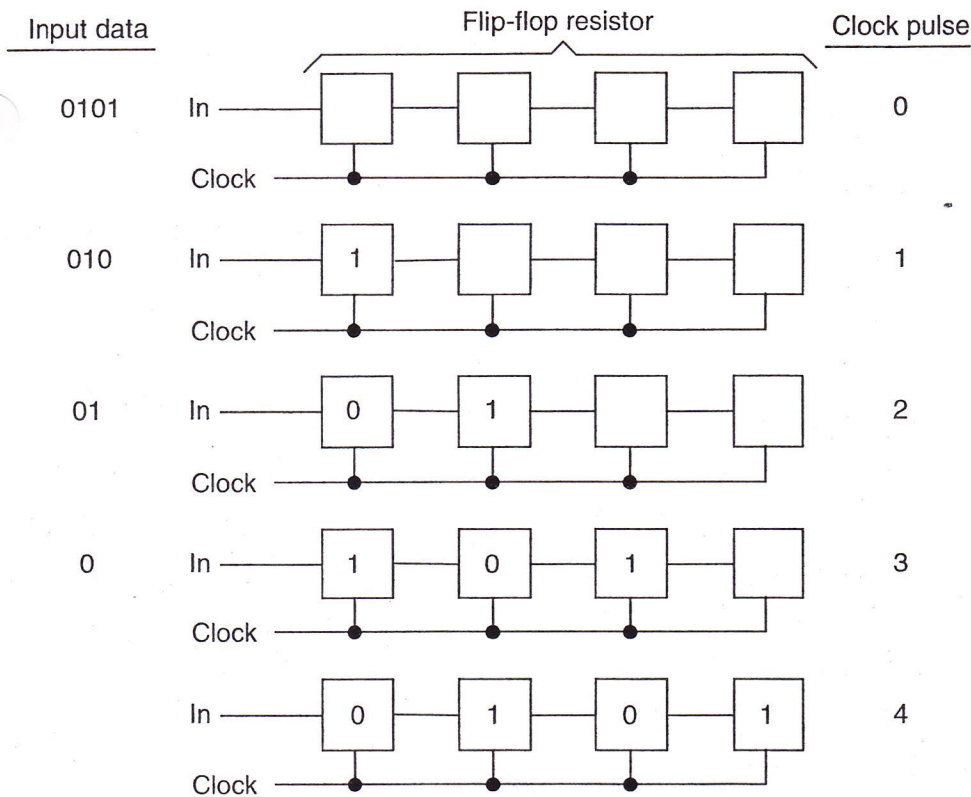

FIGURE 15-38 It takes four clock pulses to load four bits into the register.
5. **Registers:** Used in the computer to temporarily store information. A register is a combination of flip-flops that transfers bits from one to another every time a clock pulse occurs (Figure 15-38, page 378).